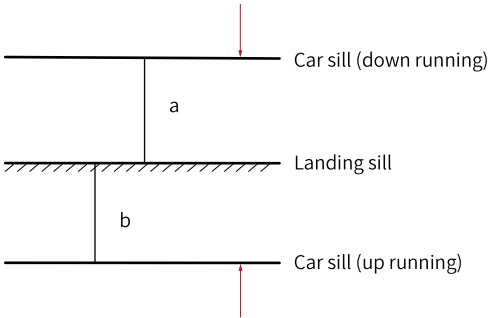

Figure 5-17 Under-leveling
1. For under-leveling (as shown in *"Figure 5-17 " on page 72*), add H ($H = (a + b)/2$) to F4-00.